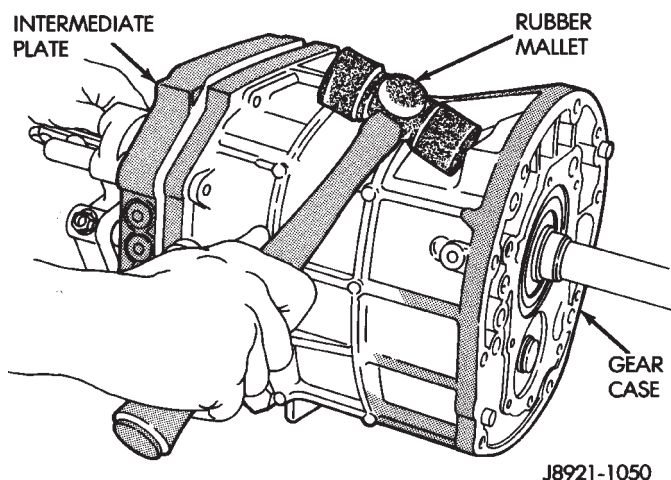

Fig. 31 Separate Intermediate Plate and Transmission Case
- (23) Separate intermediate plate and transmission case by tapping them loose with plastic mallet (Fig. 31).